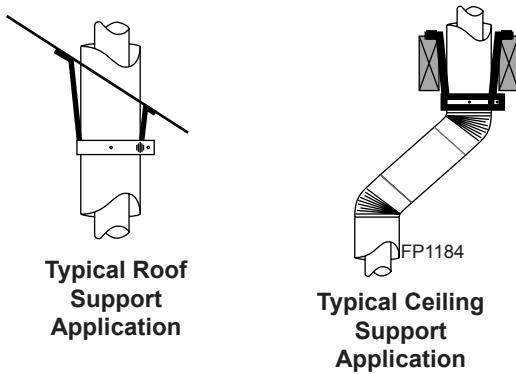
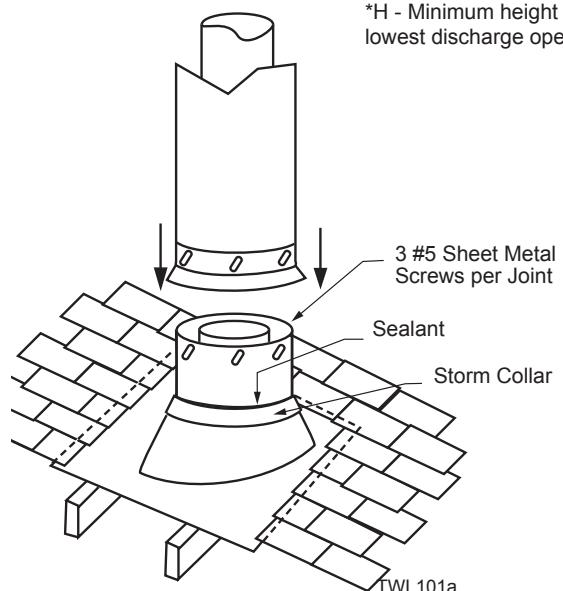

Figure 37 -
Figure 39 -
- 7DVCS supports offsets. *Figure 37*. This application will require that you first determine the roof pitch and use the appropriate starter kit. (Refer to Venting Components List)
- Install roof support (*Figure 37*) and roof flashing making sure upper flange is below the shingles. *Figure 39*
- Install appropriate pipe sections until the venting is above the flashing. *Figure 39*
10. Add additional vent lengths for proper height. *Figure 39*